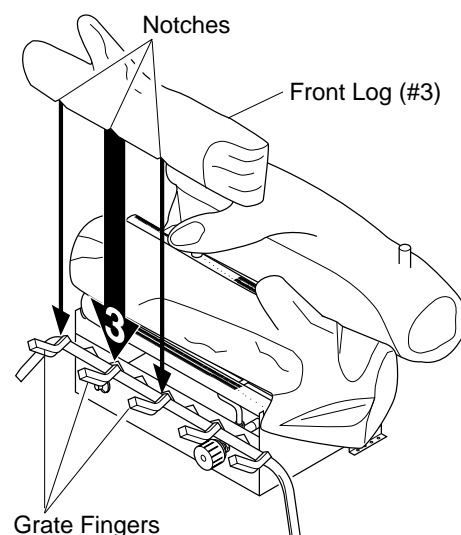

Figure 22 - Installing Front Log (#3)
3. Locate the notches in the bottom of the front log (#3). Place the front log on the grate fingers. Make sure the notches of the front log line up with the grate fingers (see Figure 22).